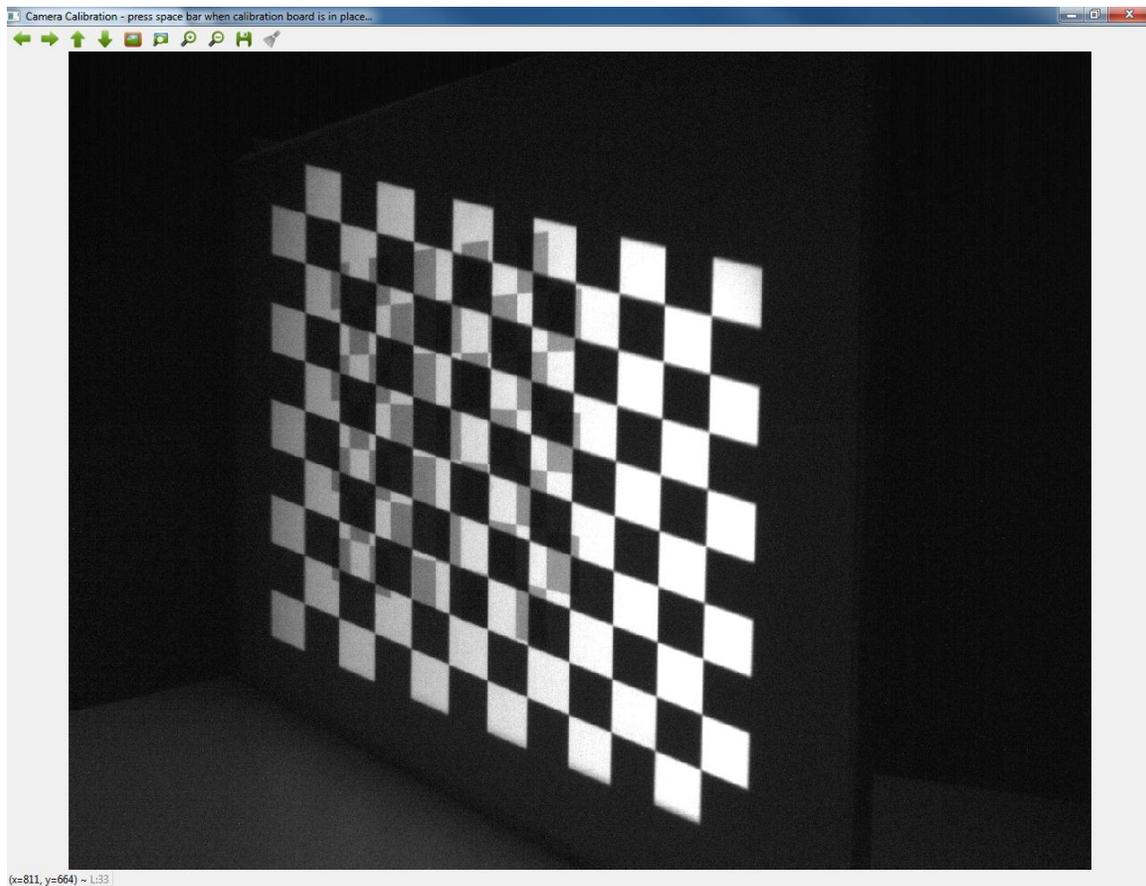
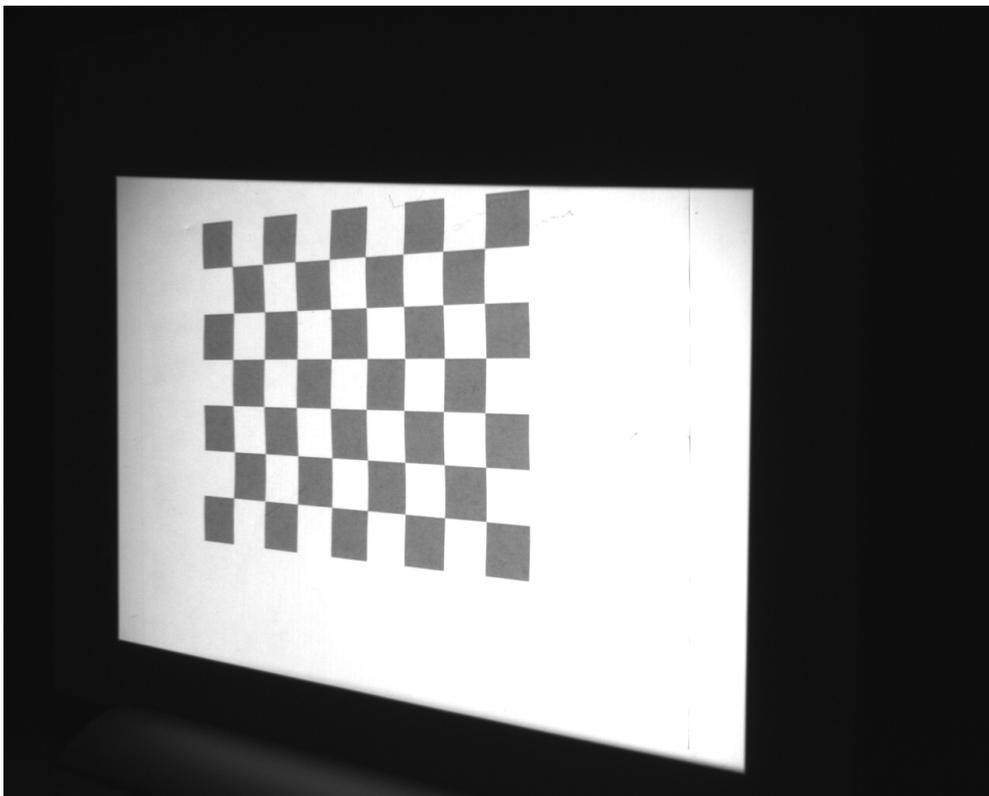

Figure 3-25. Projector Calibration Chessboard Capture
Figure 3-35. Projector Calibration Board Capture Position 10
3. Select the live camera view window and press the spacebar to capture the centered calibration board. Avoid glare from the projected board or the captured image is discarded by the software. Rotate the angle of the backstop on all 3 axes in the captured images. Figure 3-25 to Figure 3-35 show some recommended projector calibration capture orientations. The camera captures three patterns after the spacebar is clicked: solid white, black and white chessboard, and solid black.